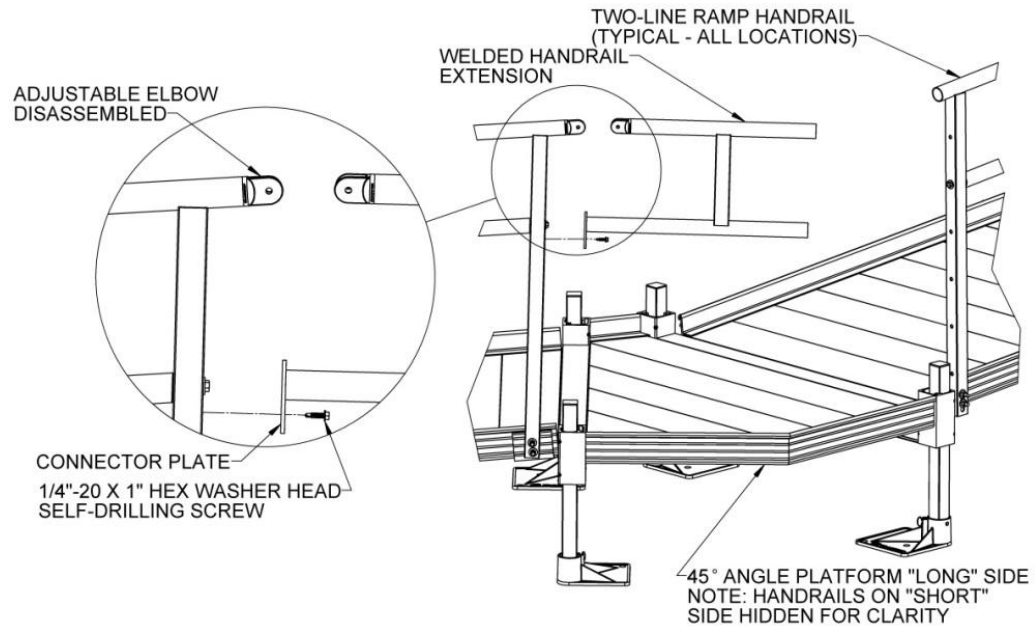

FIG. 4.18
- 4.9.8. Insert one half of the elbow into the ramp handrail and the other half into the leg of the handrail extension above the connector plate (FIG. 4.18).
- 4.9.10. Secure the connector plate to the ramp handrail post using a 1/4"-20 x 1" hex washer head self-drilling screw (FIG. 4.18).